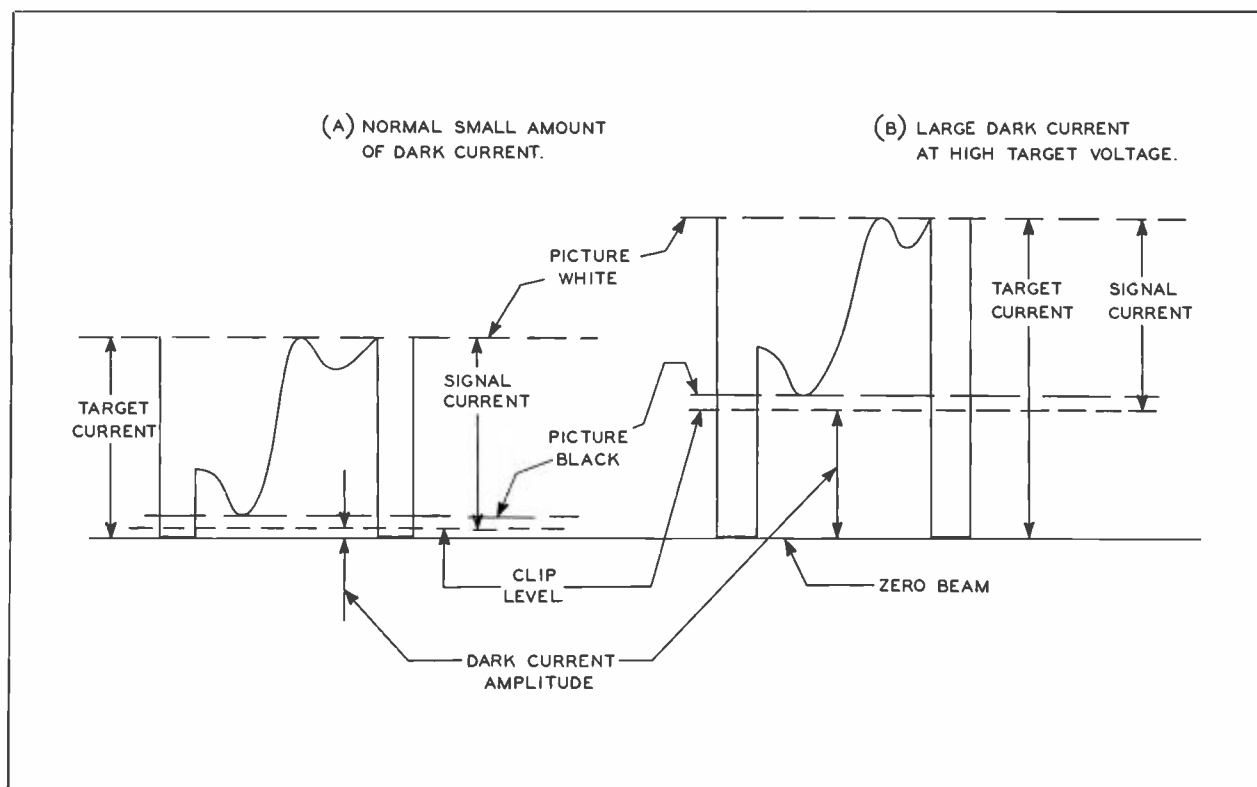

FIG. 8. Diagram showing effect of change in dark current.
The total current flow in this loop may be defined as *target current*. When the target is dark, its resistance is not infinite, and there will be residual target current flow (normally quite uniform over the whole target area, especially in the new 7038 vidicon) known as *dark current*. By permitting light to fall on the target, the current increases. The *difference* between *total target current* and residual *dark current* may be defined as useful *signal current*. Since dark current is reasonably uniform, it may be considered as a d-c component of the total video signal. This is illustrated in Figure 8 where (A) and (B) show typical conditions for two different values of dark current.
Because dark current is not useful signal current, it is desirable to keep it at a minimum, and if possible, to keep it small compared to signal current, see Fig. 8(A). Under such conditions, temperature changes, even though they cause a 2-to-1 increase in dark current, make little difference in the relation of dark current to signal current. However, when the dark current is relatively large, as in Fig. 8(B), a 2-to-1 change in dark current causes a noticeable change in pedestal setting in the video signal, and may require readjustment of the pedestal control. Furthermore, a large increase in dark current may require an increase in beam current.
From the preceding discussion it is apparent that *minimum dark current is a key to good performance*. It is important therefore to be able to recognize it easily and to know how to compensate for undesirable effects produced by it. The effect of a large increase in dark current (caused by an increase in target voltage and possibly aggravated by increasing temperature) has been illustrated in Fig. 8. The result is a shift in pedestal which can be